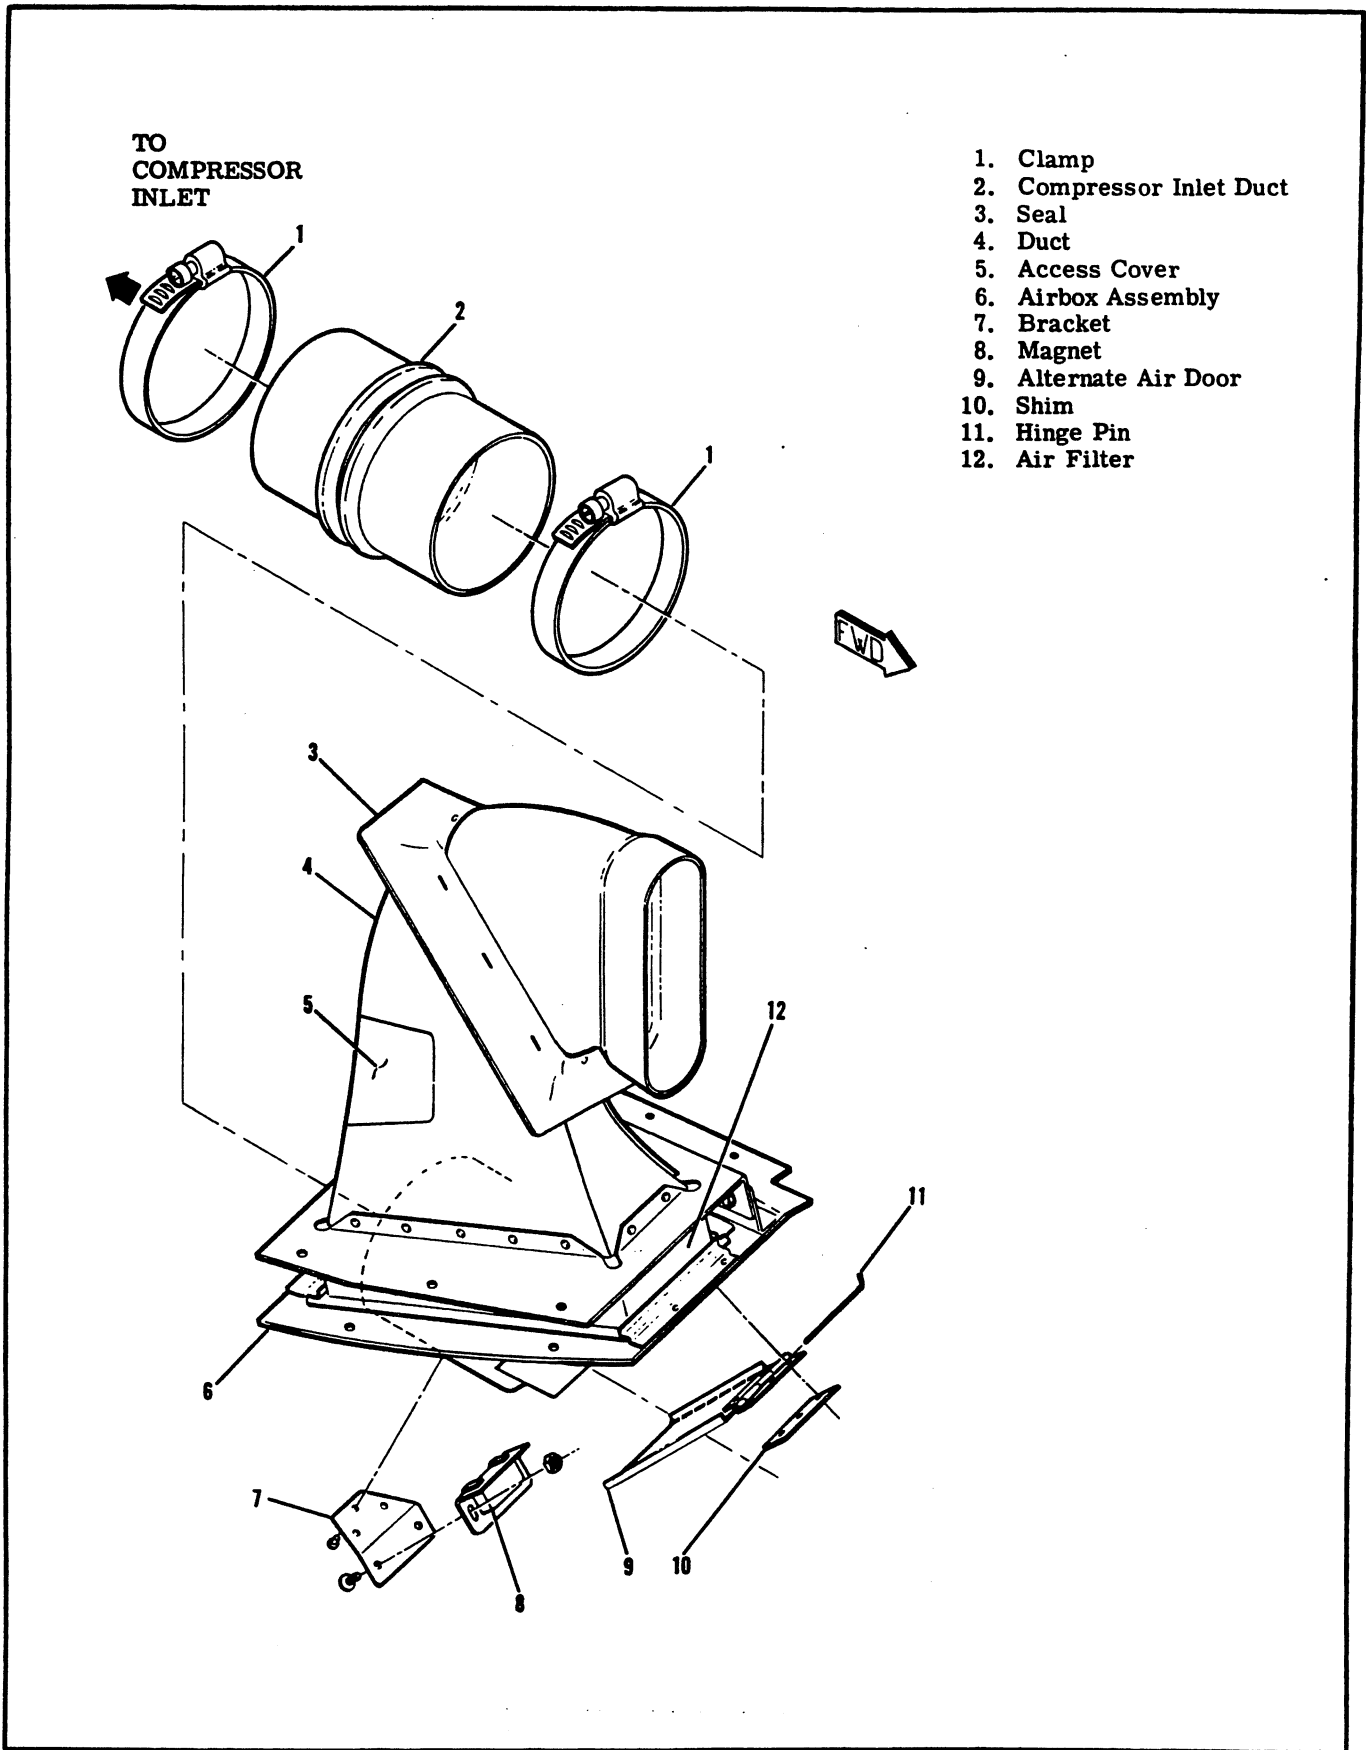

Figure 10A-1. Front Engine Induction Air System
a. FRONT. (Refer to figure 10A-1.)
2. Pull filter (12) from airbox (6).
3. Remove engine cowling as required for access to the upper duct (4) and airbox (6).